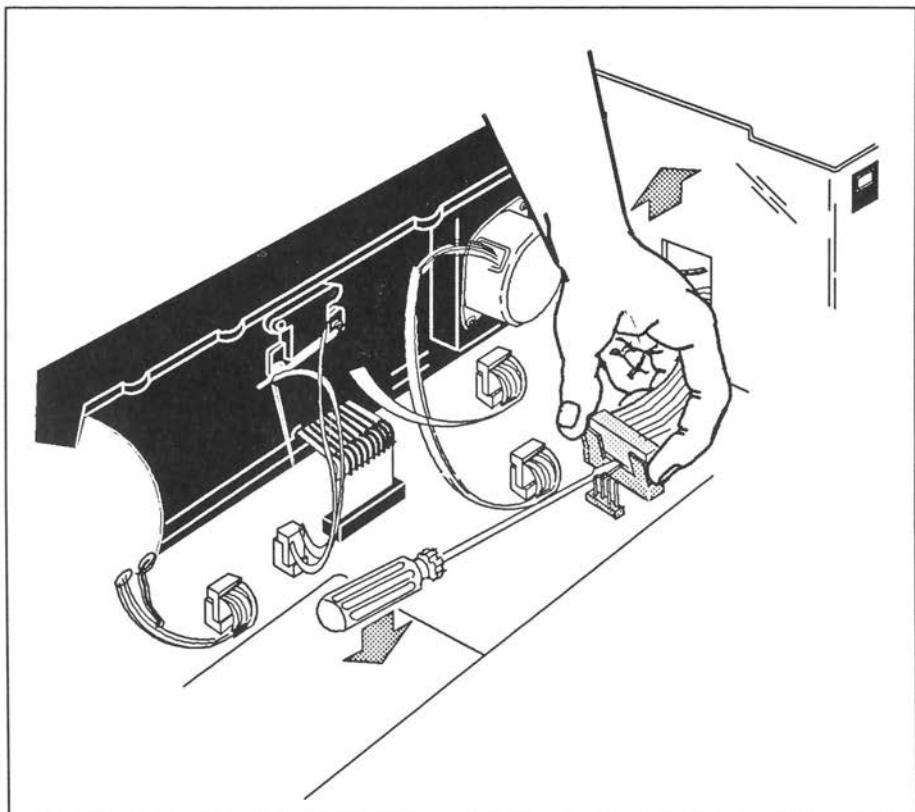

Figure 7-10. DC Cable Removal Detail
- b. Refer to figure 7-10. Insert the screwdriver between the connector and P500, and twist to loosen the connector. Remove the connector.